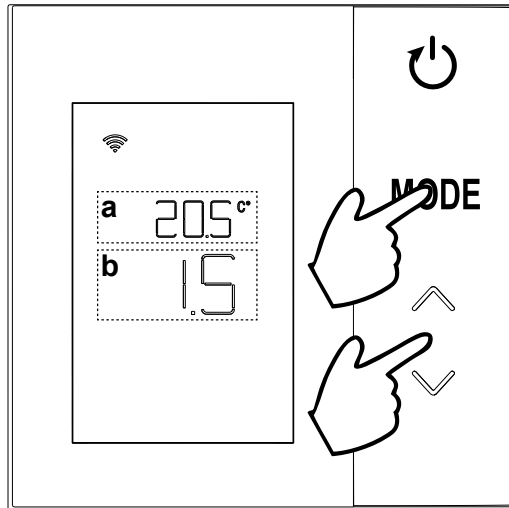

fig. 30
1. the correction value (**b** “fig. 30”),
2. The measured temperature (**a** “fig. 30”) to which